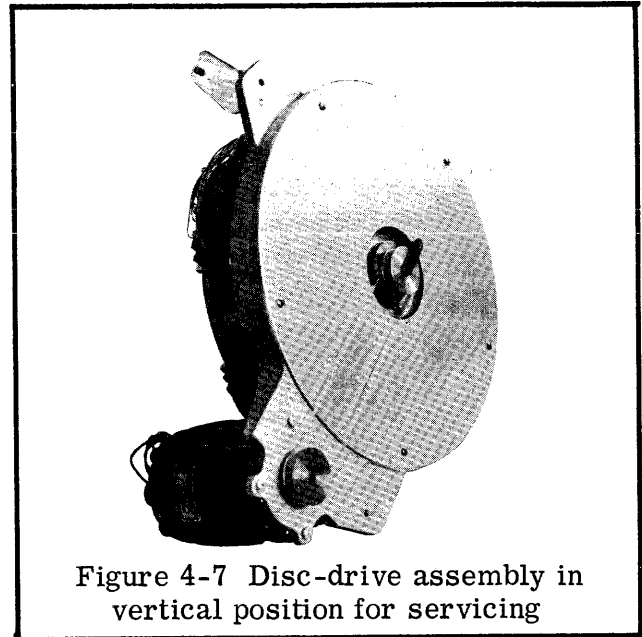

Figure 4-7 Disc-drive assembly in vertical position for servicing
- Tip the assembly into a vertical position with the motor at the base as shown in Figure 4-7. The unit will be stable in this position.